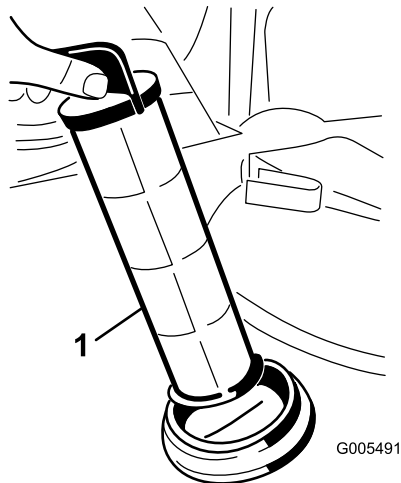

Figure 56
- Pull the suction strainer out of the hole (Figure 56).